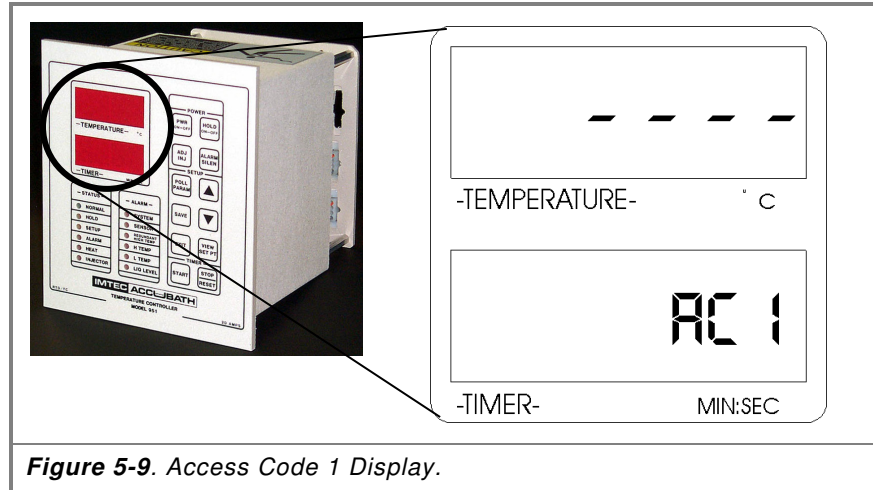

Figure 5-9. Access Code 1 Display.
<p>Entering codes for the first time: enter the preset access code for level 02 (408), or level 01 (00). The first parameter value available for change appears in the Temperature display window and its code displays in the Timer window below it. If the code is not AC1, press POLL PARAM to scroll through the parameters until AC1 appears in the Timer display window, with four dashes above it, Figure 5-9.</p>